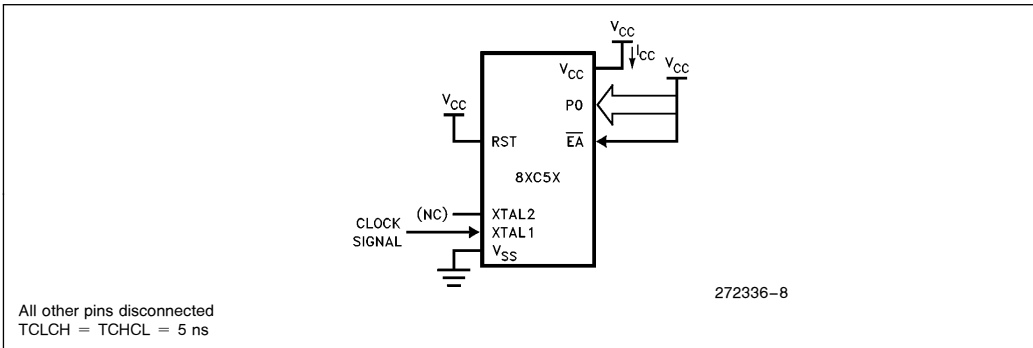

Figure 6. ICC Test Condition, Active Mode
3. See Figures 6–9 for test conditions. Minimum  $V_{CC}$  for Power Down is 2V.